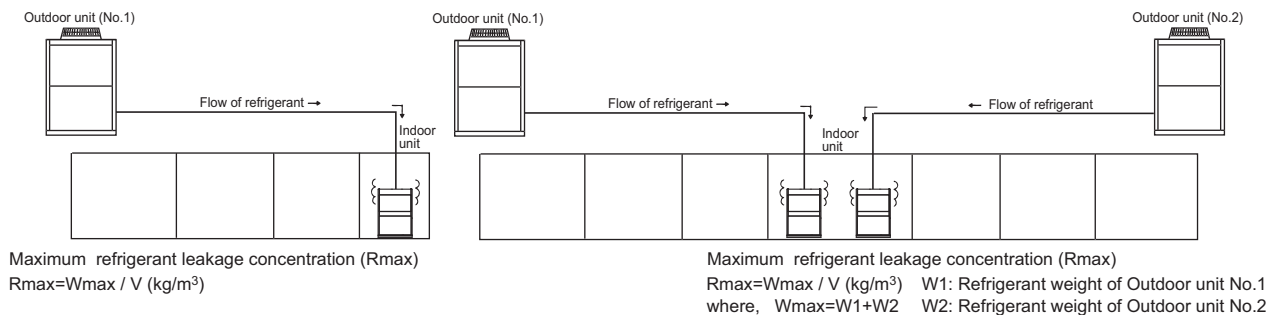

Fig. 10-1 The maximum refrigerant leakage concentration
(2) Confirm the Critical concentration and take countermeasure
The maximum refrigerant leakage concentration (R_{max}) is defined as the result of the possible maximum refrigerant weight (W_{max}) leaked into a room divided by its room capacity (V). It is referable to Fig.10-1. The refrigerant of Outdoor unit here includes its original charge and additional charge at the site.